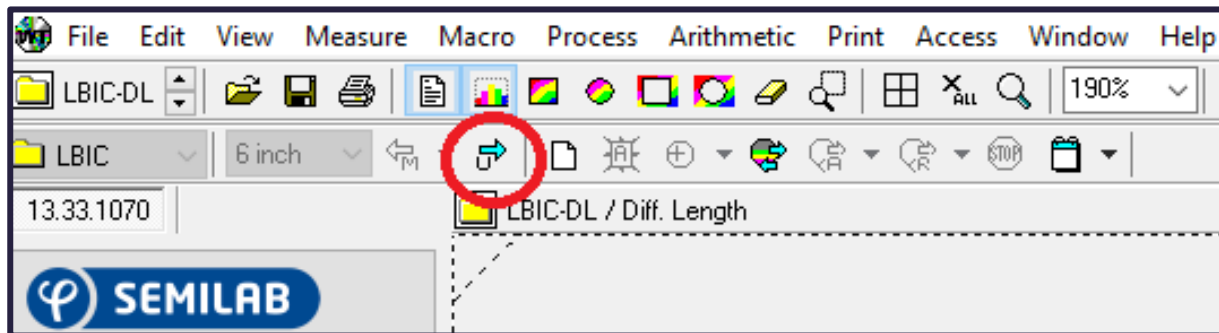

Figure. 17
17. Click "Unload wafer" tab for unloading the sample. (Figure. 17)